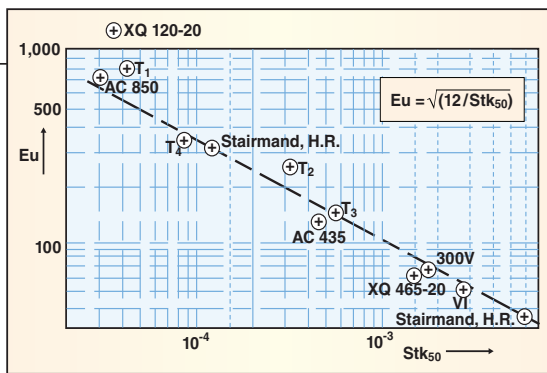

FIGURE 10. This plot by Svarovsky clearly shows that cyclones with higher efficiency will exhibit higher pressure drop [4]
Svarovsky [4] plotted the pressure drop characteristics (represented by Euler number [Equation (8)] versus collection efficiency (represented by Stokes number [Equations (9) and (10)]) for various industrial cyclones (see Figure 10).
Figure 10 shows that cyclones with lower Stokes' number (lower cut-size or higher efficiency) have higher pressure drop. Therefore, there is always a trade-off between pressure drop and collection efficiency. The data (Figure 10) can be represented by the following equation: